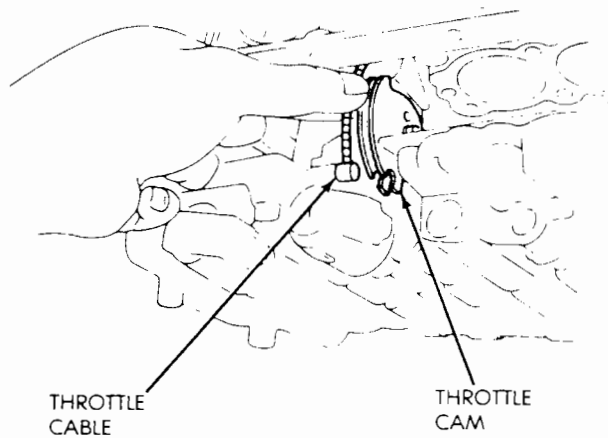

**Fig. 25 Installing Spacer Sleeve On Sector**
- (11) Install new spacer sleeve on sector (Fig. 25).
- (12) Lubricate manual valve shaft and install it in case.